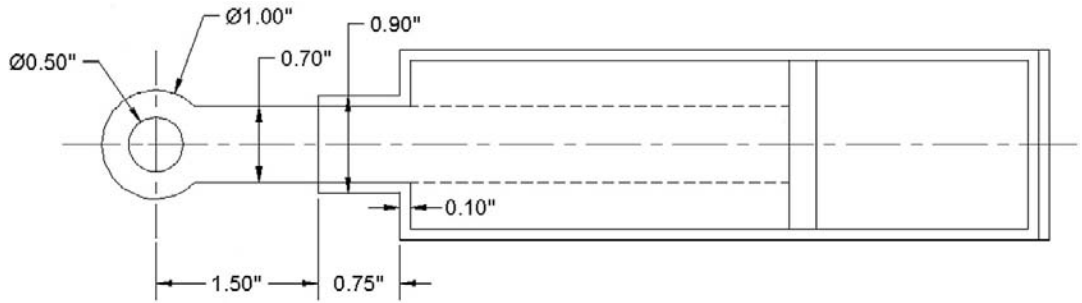

FIGURE 8.11
- Step 9.** Continue adding the basic geometry to the side view, as well as hidden and centerlines, as shown in Figure 8.11. Set LTSCALE to .4.